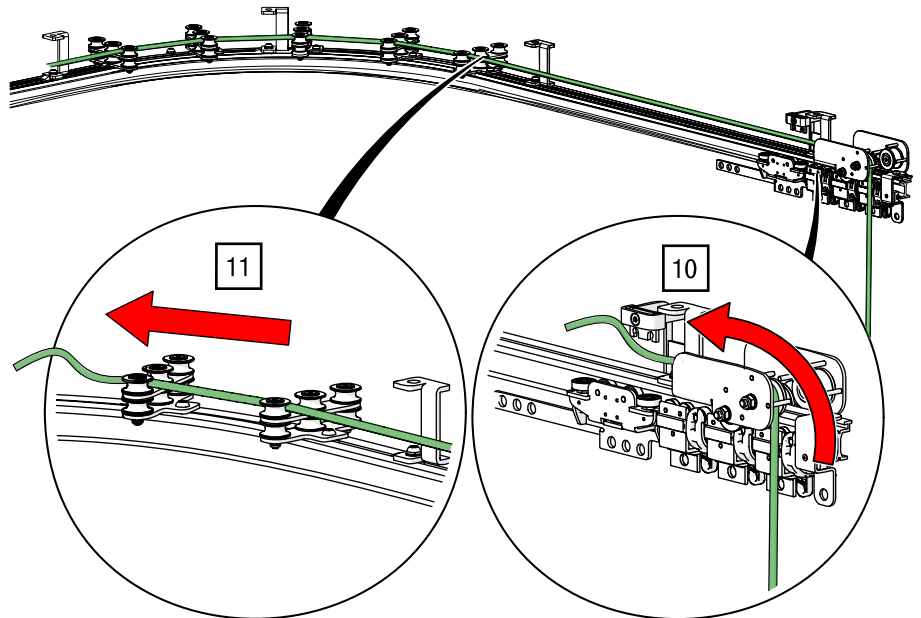

Fig. 110: Double top cord operation – Guide cord through head pulley and cord operation
10. Pass the cord upwards on the left-hand side through the head pulley (see Fig. 110).
11. Guide the cord past the first master runner through the upper rollers of the cord guides (see Fig. 110).